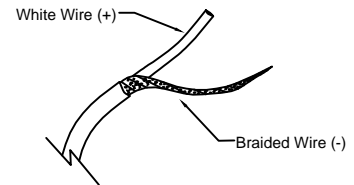

FIGURE-03
- Separate the two wires and tangle the braided wire. (See Figure-03)